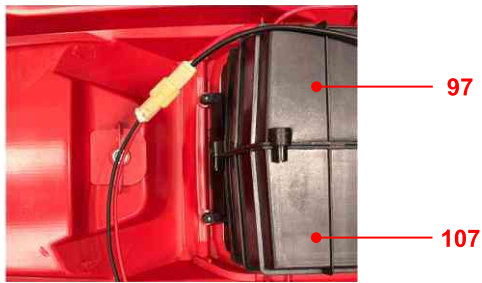

Fig. 9
- Disconnect the wiring plug to disconnect the battery pack compartments (97, 107) from the 40V controller (62) (Fig. 9).